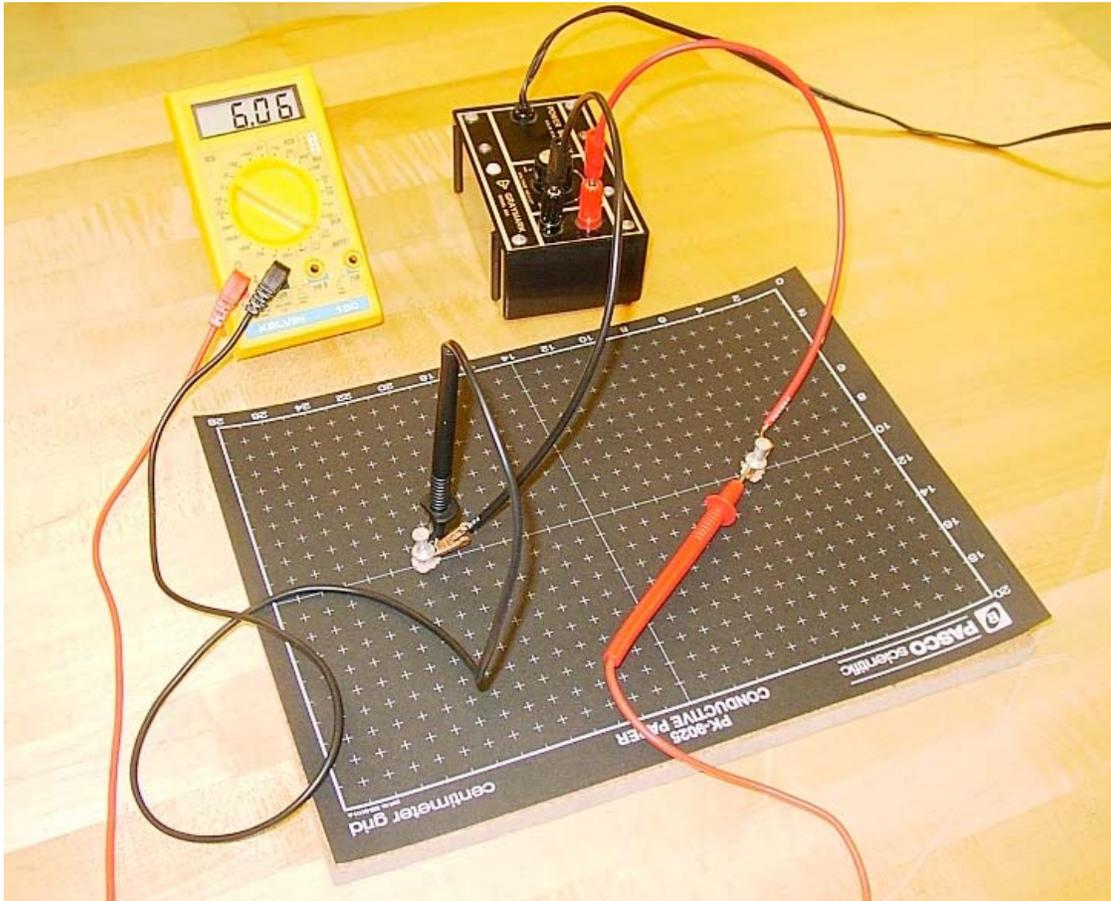

Fig. 8-1 Electric Fields and Potentials - Point Charge Arrangement
2. Unplug and turn off the power supply. Refer to Fig. 8-1 and 8-3: connect the power supply to the point charges.
3. Refer to Fig. 8-1 and Fig. C-9: connect the ground lead (black) from the DMM to the negative point charge (black wire). Connect the positive lead (red) of the DMM from the "V Ω " jack of the DMM to the positive point charge (red wire).